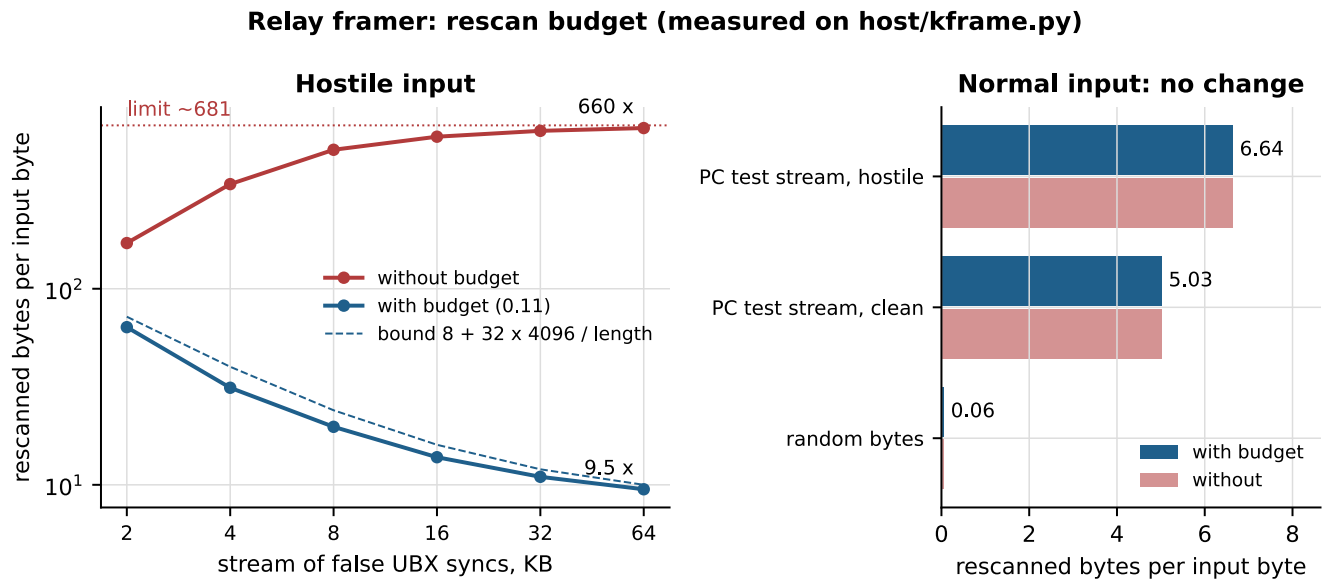

Figure 7. Rescanned bytes per input byte, measured on the Python mirror of the framer (byte-equal to the firmware's C in the PC tests).
- A rescan budget bounds the work on hostile input (Figure 7).